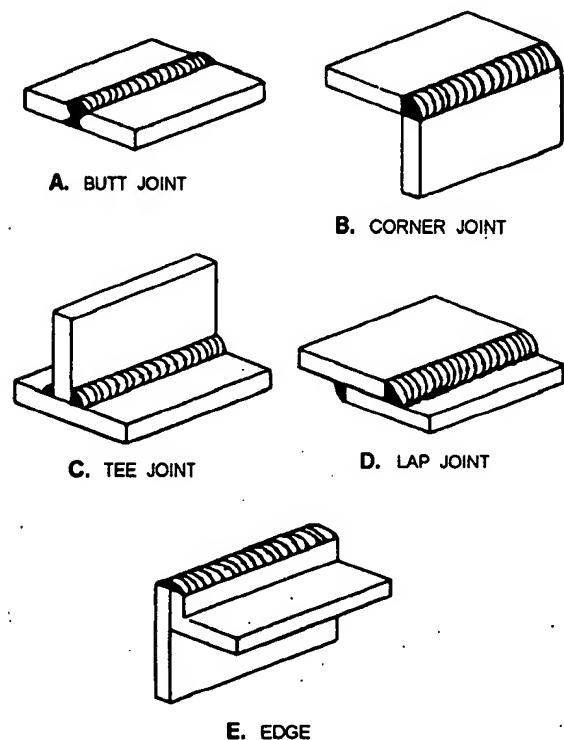

Figure 3-6.—Basic weld joints.
The **weld joint** is where two or more metal parts are joined by welding. The five basic types of weld joints are the butt, corner, tee, lap, and edge, as shown in figure 3-6.
A **butt joint** is used to join two members aligned in the same plane (fig. 3-6, view A). This joint is frequently used in plate, sheet metal, and pipe work. A joint of this type may be either square or grooved. Some of the variations of this joint are discussed later in this chapter.
**Corner** and **tee** joints are used to join two members located at right angles to each other (fig. 3-6, views B and C). In cross section, the corner joint forms an L-shape, and the tee joint has the shape of the letter *T*. Various joint designs of both types have uses in many types of metal structures.
A **lap joint**, as the name implies, is made by lapping one piece of metal over another (fig. 3-6, view D). This is one of the strongest types of joints available; however, for maximum joint efficiency, you should overlap the metals a minimum of three times the thickness of the thinnest member you are joining. Lap joints are commonly used with torch brazing and spot welding applications.
An **edge joint** is used to join the edges of two or more members lying in the same plane. In most cases, one of the members is flanged, as shown in figure 3-6, view E. While this type of joint has some applications in platework, it is more frequently used in sheet metal work. An edge joint should only be used for joining metals 1/4 inch or less in thickness that are not subjected to heavy loads.